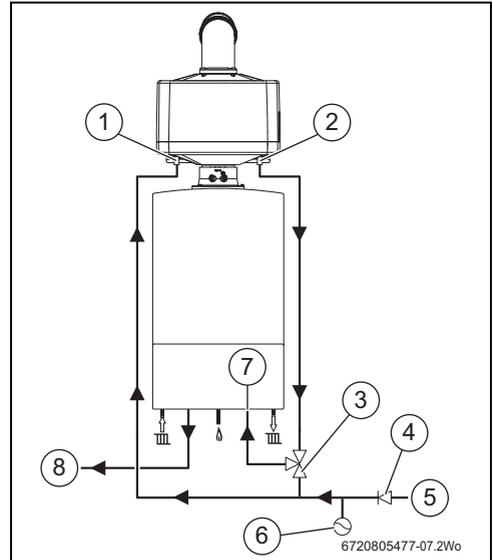

Fig. 5 Example layout
- ▶ The blending valve is installed as per the layout in figure 5, page 5. The blending valve is pre set to 30°C, no user adjustment is necessary. The locking ring and cap should be fitted.